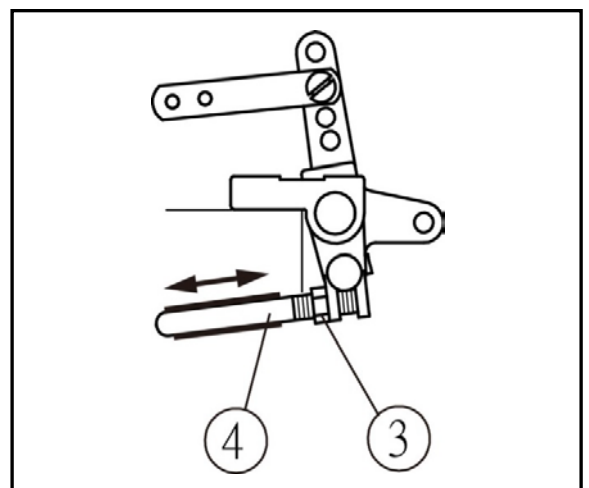

Fig. 10
- (1) Loosen the lock nut ③ .
- (2) Move the preseer foot lifter stop plunger ④ in or out to adjust the clearance. (Fig. 10)